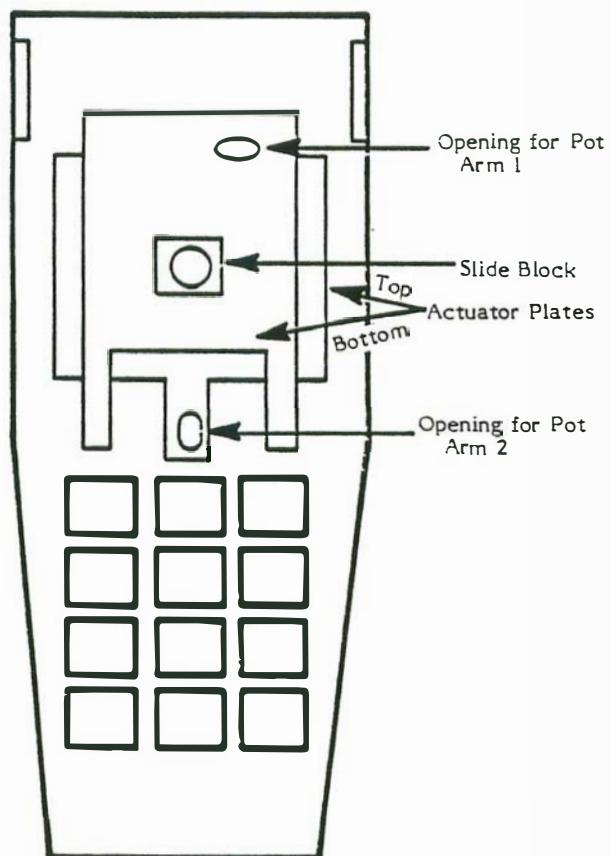

Figure 6-5. Controller Top (Underside)
- NOTE:** The actuator plates must be replaced as a complete unit which includes the two actuator plates and the slide block (see Figure 6-5).
- The actuator plates are correctly positioned in the top controller case (refer to Figure 6-5).
- The pot arms are set into the holes in the actuator plates (refer to Figure 6-5).